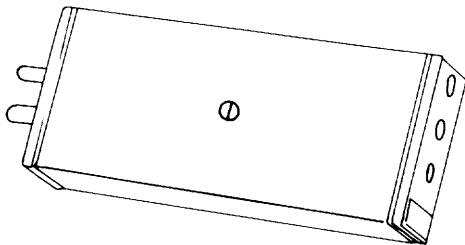

Figure 5-1. OMEGA-CJ
1. Remove the cover plate by unscrewing the single flathead screw located on the back of the unit (see Figure 5-1).